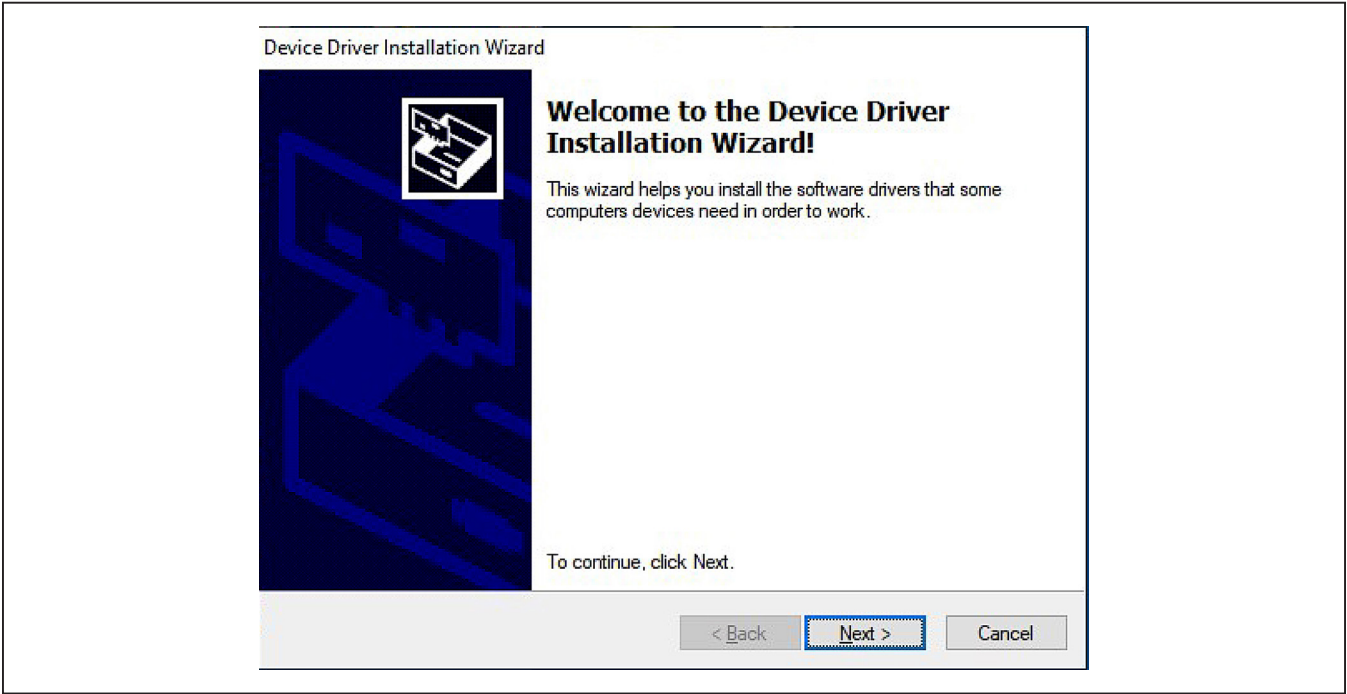
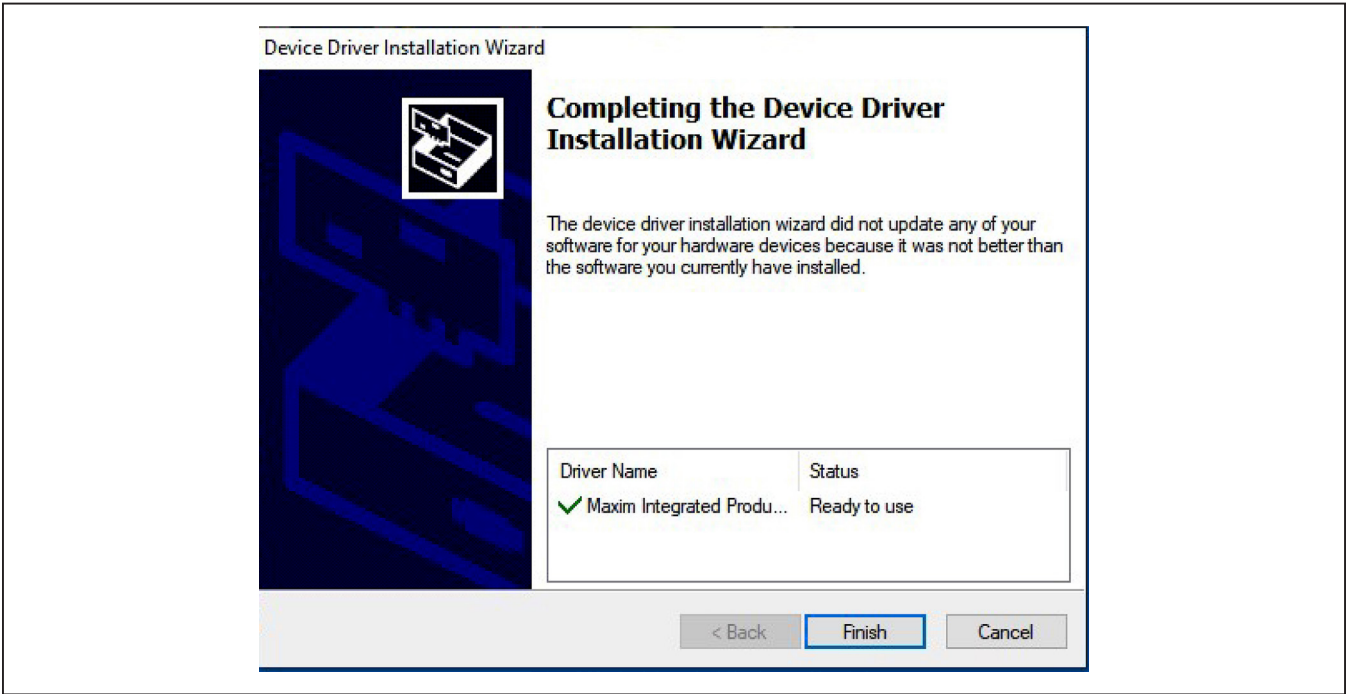

Figure 3. DS9481P-300# Driver Installation
Figure 4. Finish DS9481P-300# Driver Installation
- 4) Follow the instructions in the wizard and click **Next** to install the EV kit software and required drivers (Figure 3 and Figure 4).